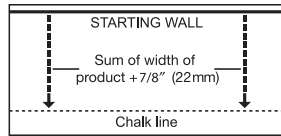

Figure 7
- Undercut door casings and jams. Remove any existing base, shoe mold or doorway thresholds. These items can be replaced after installation. All door casings and jams should be undercut to avoid difficult scribe cuts (Figure 7).
- In at least two places at least 18" (46 cm) from the corner, measure out equal distance from the starting wall (Figure 7) and snap a chalk line. The measurement must be the sum of the width of the flooring plus an additional 7/8" (22 mm) to allow for 3/4" (19 mm) expansion space and the width of the tongue. Continue to Step 3 Glue-Down Installations.